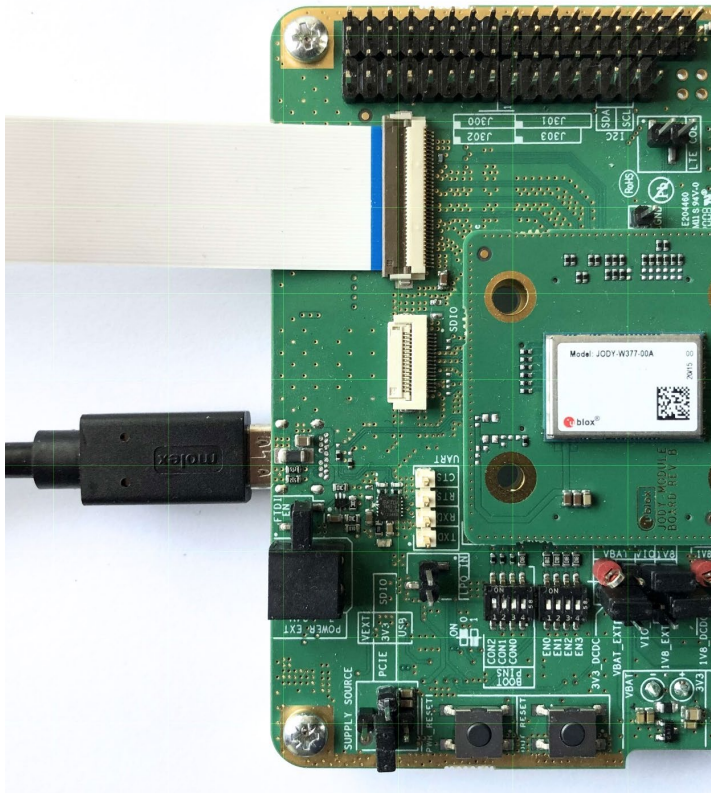

Figure 2: PCIe and USB connectors
- For PCIe connection, choose either the M.2 or the mini-PCIe adapter depending on the available connector on the host platform. First, plug the adapter into the PCIe connector on the host system and then connect it with the flat cable to the connector (J203) on the EVK, as shown in Figure 2. The PCIe interface can be used for Wi-Fi communication with the JODY-W3 series
- A high speed UART interface can be used for Bluetooth communication with the JODY-W3 series module. A USB-to-UART bridge is included on the evaluation board. To use the Bluetooth interface through USB, connect the included USB cable to the USB type-C connector on the EVK (see Figure 2) and connect it to a USB interface on the host system. Make sure that jumper J400 is bridged (default setting) to enable Bluetooth communication over USB. Refer to section 4.6 for information how to access the UART interface for Bluetooth directly.